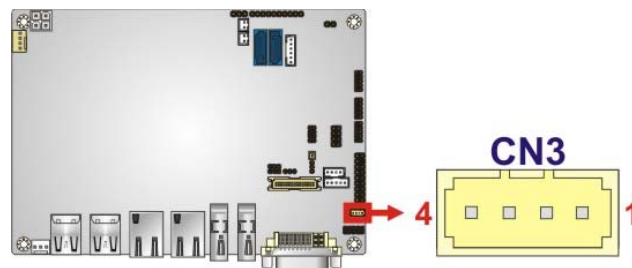

Figure 3-18: SMBus Connector Location
- CN Location:** See Figure 3-18